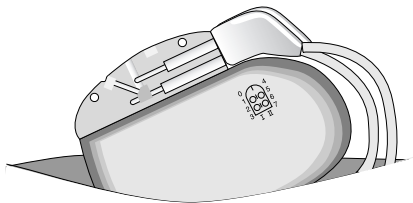

Figure 11. Implant neurostimulator.
14. Place the neurostimulator into the subcutaneous pocket, with the etched identification side facing outward away from the muscle layer of the body (Figure 11).